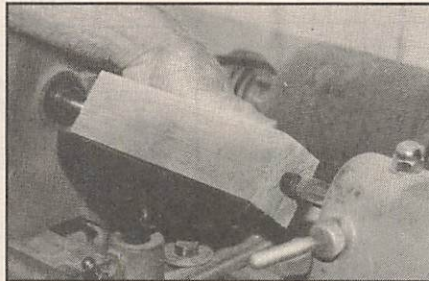

Fig. 2. Turning the stock by hand to check for clearance.
Step 2. Mount the blank between lathe centers, then turn the wood by hand to check for clearance (see Fig. 2).